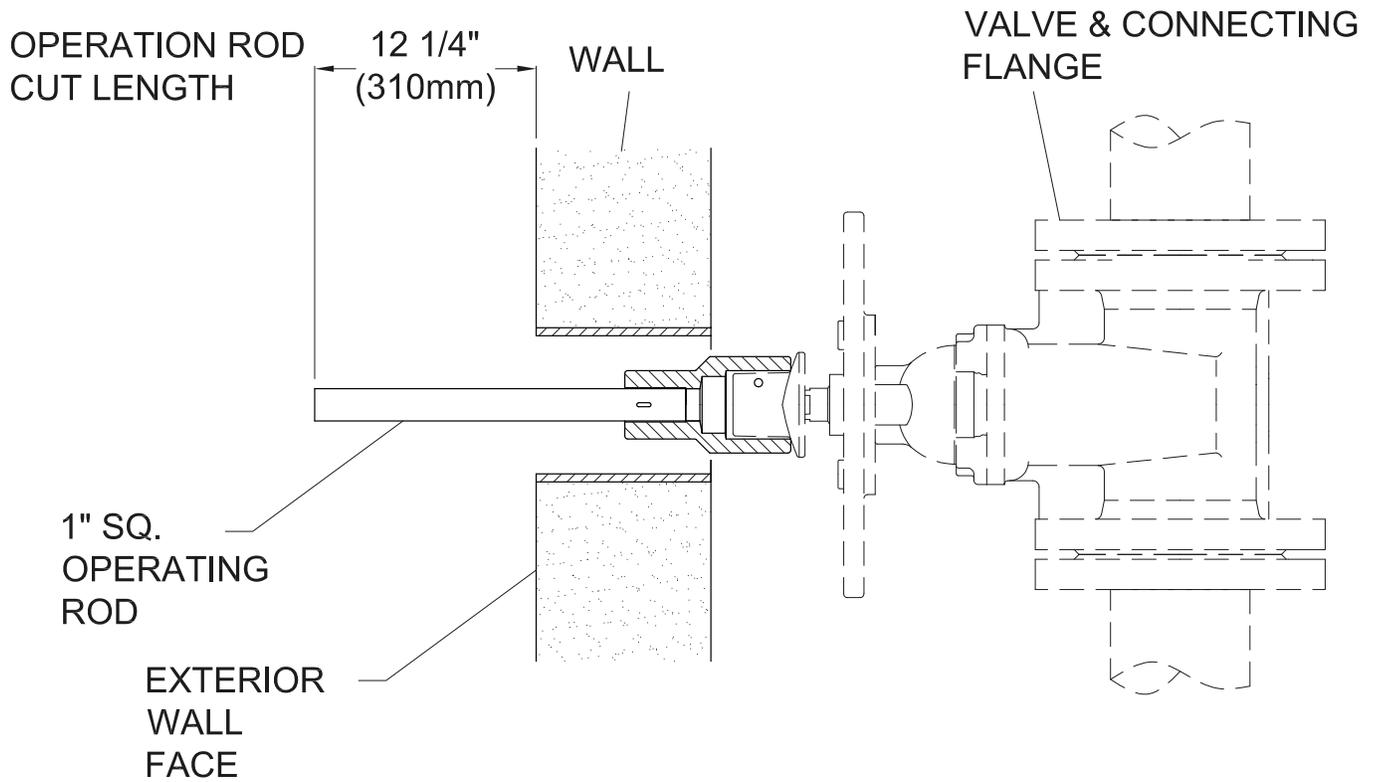

Fig. 3
- 3.3 Insert Operating Rod (26) thru exterior wall and fully engage Coupling onto Operating Nut of Valve as shown in Fig. 3. Mark the Operating Rod (26) at a distance of 12¼" from exterior face of wall. Remove Operating Rod (26) from wall and cut-off the top section of the 1" square Rod at location you just marked. Remove any sharp edges from the Rod with a file.